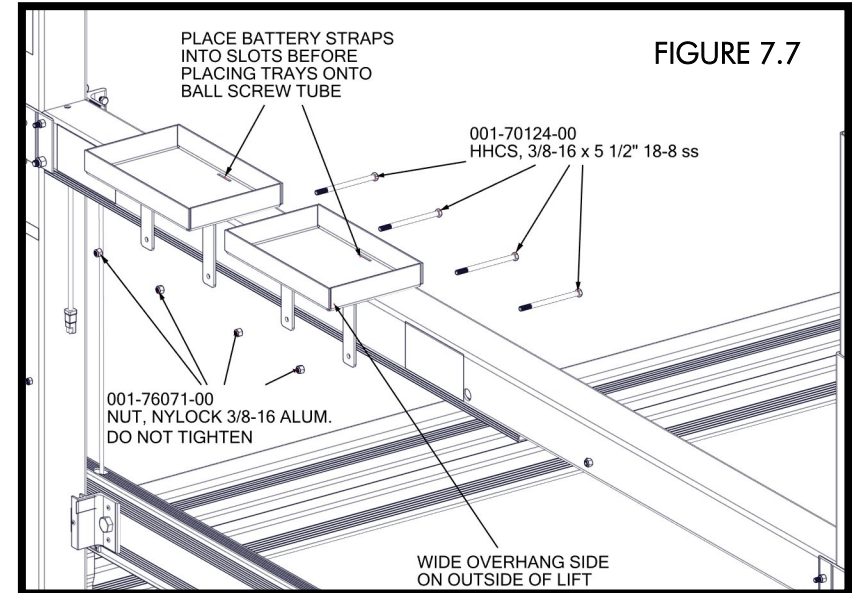

FIGURE 7.7
- DC ONLY: SLIDE BATTERY TRAYS OVER THE BALL SCREW TUBE WITH THE WIDE OVERHANG SIDE OF THE TRAY TO THE OUTSIDE OF THE LIFT TO PROVIDE MORE CLEARANCE. FASTEN WITH (4) 3/8" x 5 1/2" BOLTS WITH (4) 3/8" NYLOCK NUTS. DO NOT TIGHTEN COMPLETELY UNTIL WIRING IS COMPLETE TO ALLOW FOR ADJUSTMENT (FIGURE 7.7).